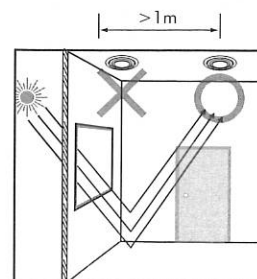

FIG.4-C
- Do not install the detector directly next to a window or sun blind which can cause incorrect measurement on the natural light (Refer to FIG.4-C)